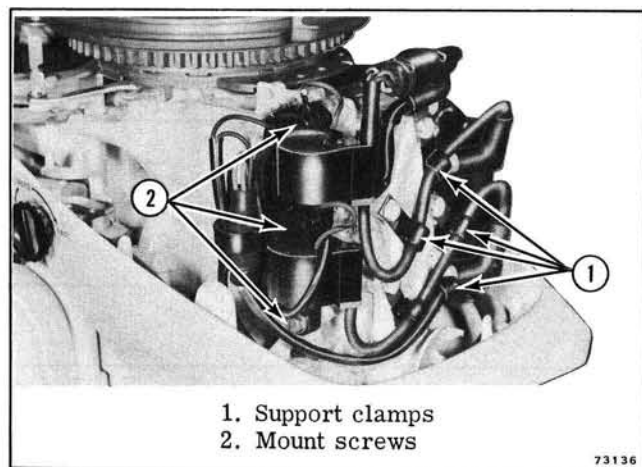

Figure 4-46. Ignition Coil Mounting
c. Release the ignition coil wires from the support clamps and remove the coil mounting screws. See Figure 4-46.